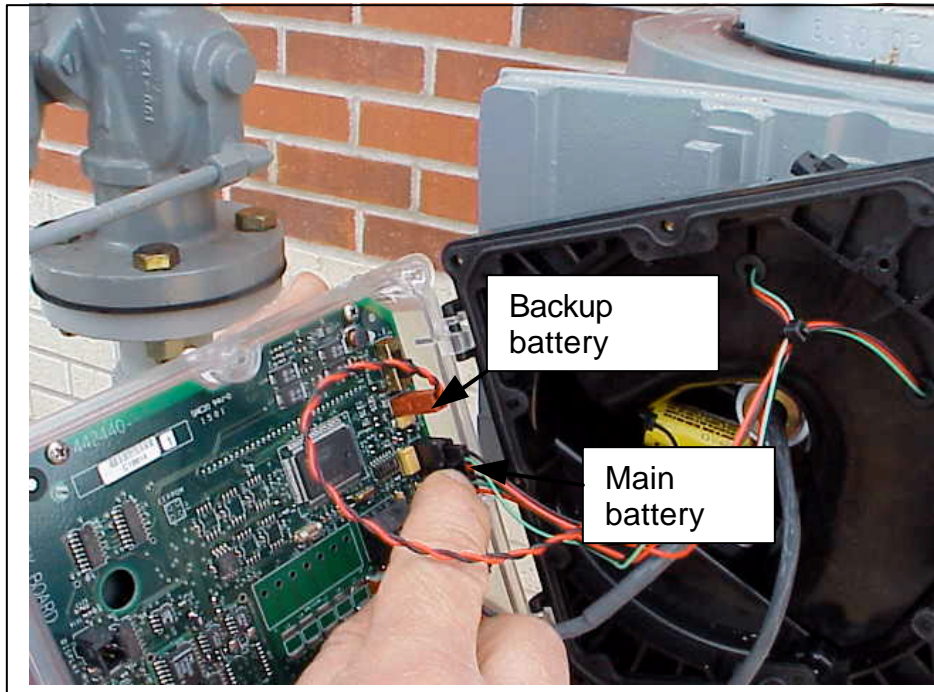

Figure 7.6 Battery connections
4. Unplug the backup battery cable/connection on the board. Next unplug the main battery cable. See Figure 7.6